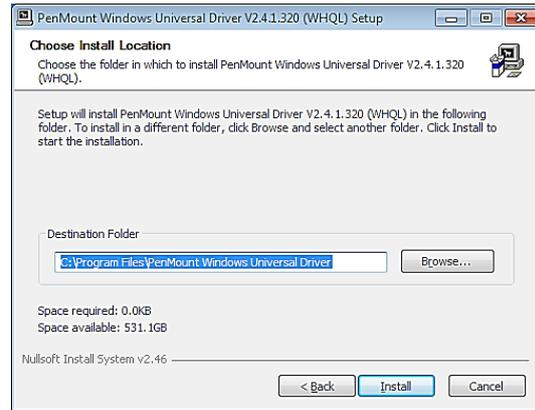

Figure. 101
Step 4: Select the destination folder and click “Install” (Figure. 101).